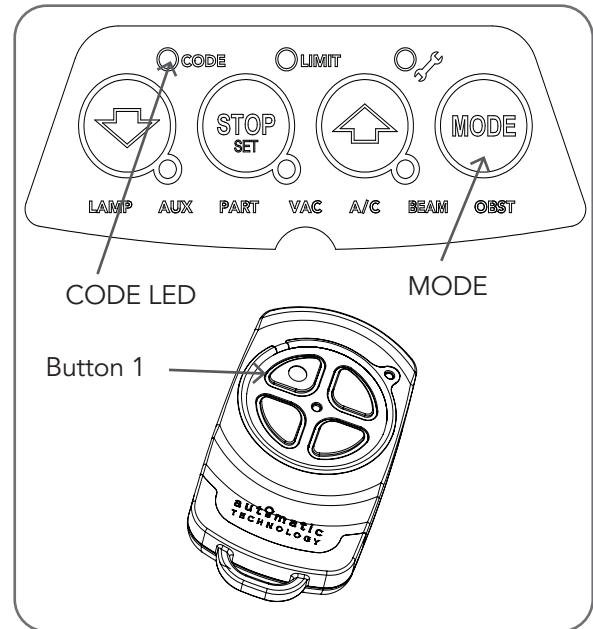

Fig 6.7.1
- Press and hold the STOP / SET button to enter the code set procedure (**Fig. 6.7.1**).